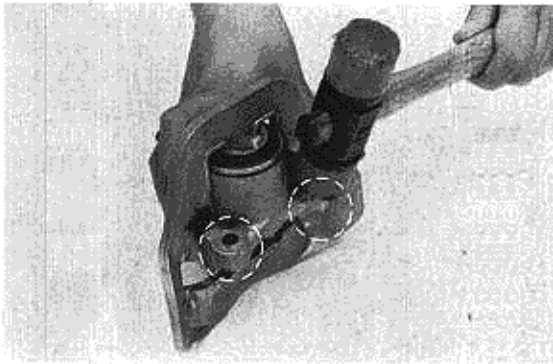

Fig. 11-17
11. Tap the cylinder body lightly with a plastic hammer at the points shown in Fig. 11-17 to remove the cylinder body. Then remove the cylinder body from the caliper. Exercise extreme care to avoid damage to the cylinder body. At this time, if only the cylinder body moved while the outer piston is held stationary on the caliper, a gentle tap on the piston should loosen the piston. Do not hit the rubber boot. Tap the areas indicated by the circles.